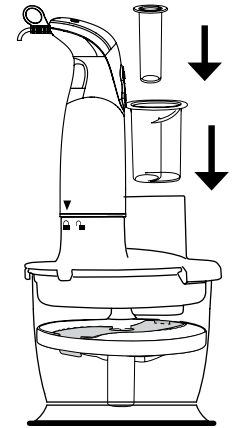

FIG. 3a.
3. Assemble the Disc Blade (with desired blade) over the pin in the food processor bowl as illustrated in Fig. 3a.
3. Make sure that the lid is securely locked and the large food pusher and the small food pusher are in place, refer to Fig. 3a.